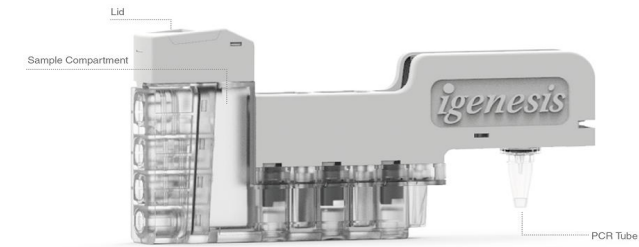

Figure 1 SP/KP/LP/HI/BP iCassette (Lateral View)
Open the SP/KP/LP/HI/BP iCassette package and observe whether the lyophilization in the tube are intact. Pipette 1mL of the sample to be tested and slowly add it to the SP/KP/LP/HI/BP iCassette sample compartment as shown in Figure1, close the lid tightly, put it into the ultrasonic machine, and sonicate for 20 seconds. (Note: After the sample is added to the iCassette, the test needs to start running within 30 minutes)
A. Pipette 750 µL of saline and 250 µL of negative control or positive control and slowly add it to the SP/KP/LP/HI/BP iCassette sample compartment as shown in Figure1, close the lid tightly, put it into the ultrasonic machine, and sonicate for 20 seconds.